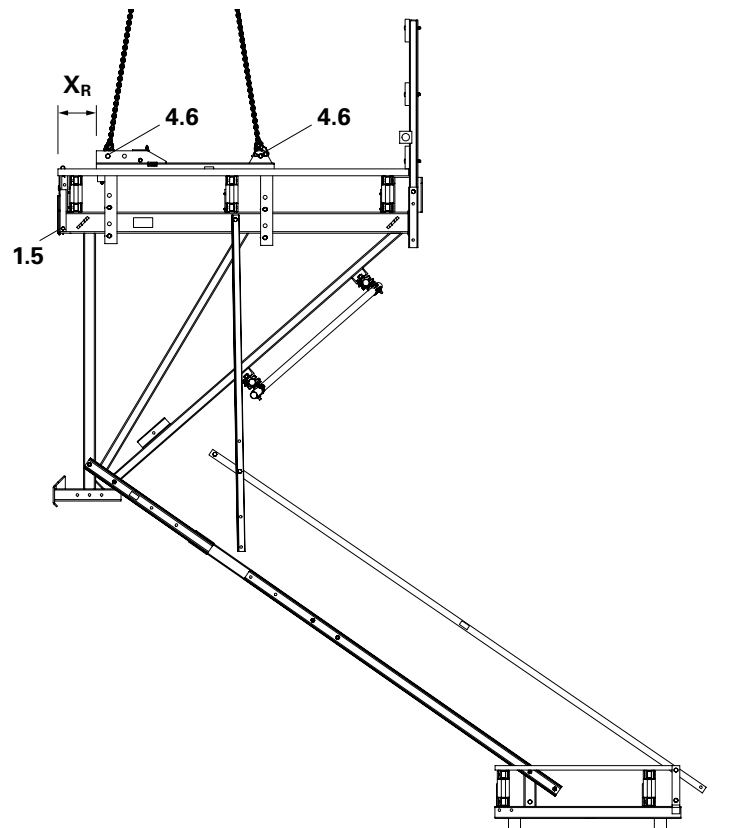

Fig. B1.45
5. Lift out working platform from the anchoring and disassemble finishing platform. (Fig. B1.45)